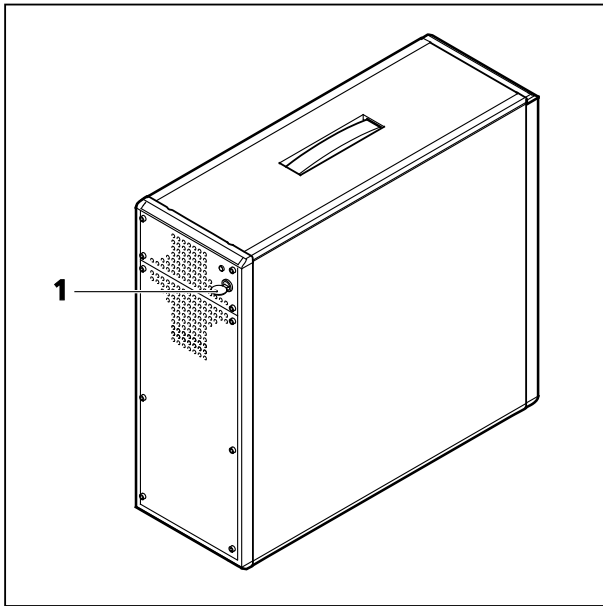
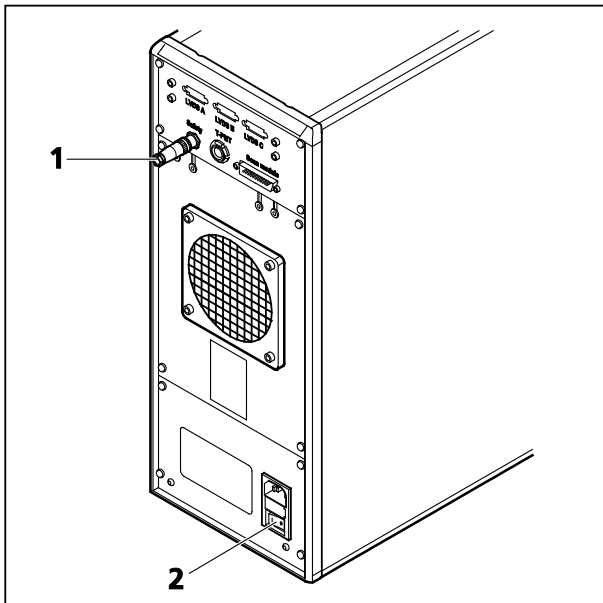

Fig. 1 Electronics and laser module
Fig. 2 Electronics and laser module
- Turn the key switch (Fig. 1/1) of the electronics and laser module to the right to start the laser. The yellow LED in return turns on. If this is not the case, check the power switch (Fig. 2/2) on the back of the laser module.
- On the back of the system there is a plastic screw (Fig. 2/1). This is a laser interlock which can be used for coupling the laser module e.g. to doors. If this screw is **unscrewed** the lasers will **not** turn on!